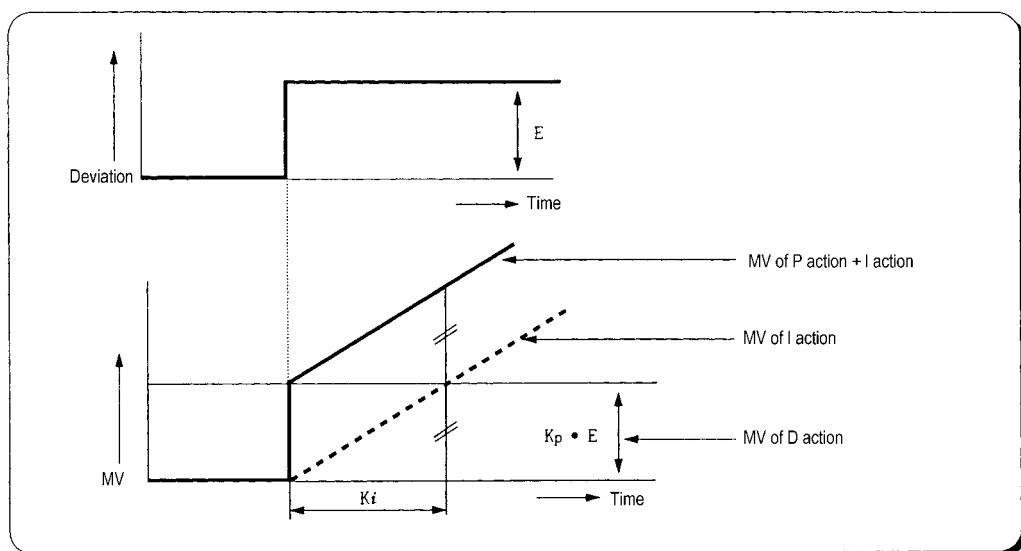

Fig. 7.3 The integral action with constant deviation
② Integral action when a constant deviation has occurred is shown as the following Fig. 7.3.